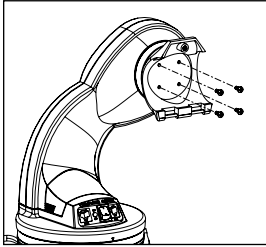

Fig. 6: Attach cradle to mounting arm.
7. **Attach the cradle to the mounting arm:** Line up the cradle with the mounting arm shaft. The cradle contains a molded "key" that fits into a slot on the shaft. Line up the key and the slot, and slide the cradle onto the shaft. This automatically lines up the mating threads on the cradle with the ones on the shaft. Replace the four screws into the mating threads using the Phillips head screwdriver (Fig. 6). The key and slot on the shaft set limit stops for the telescope so that it doesn't strike the base or pass beyond approximately 90° upright when you use the Autostar handbox.